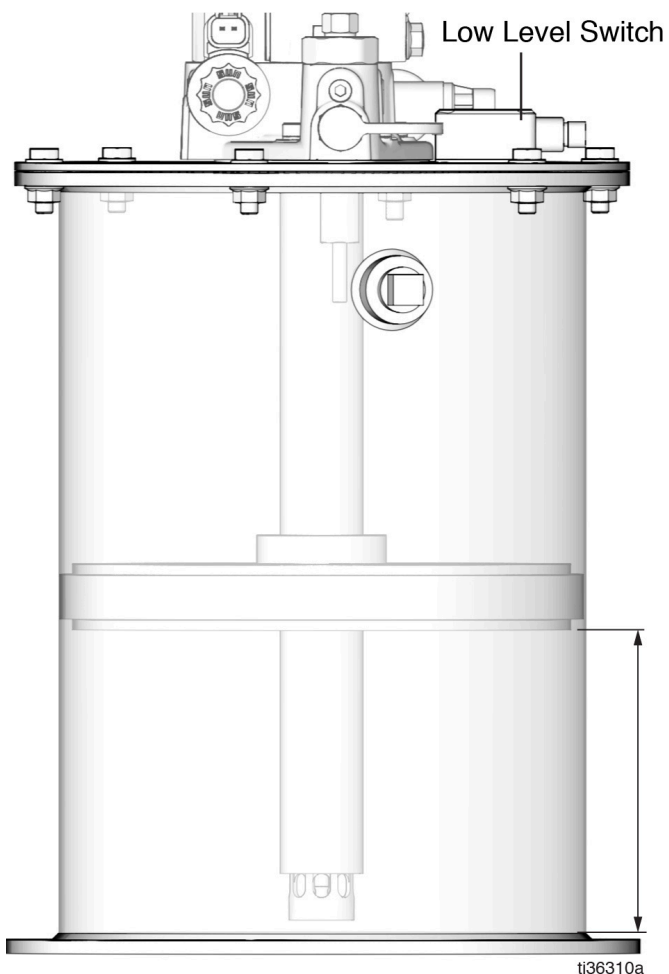

FIG. 20
The low level switch (S) (FIG. 20) indicates a fault when the follower plate (Y) reaches the factory set distance from the bottom of the tank. The fault activates when the remaining grease level is approximately 10 percent.